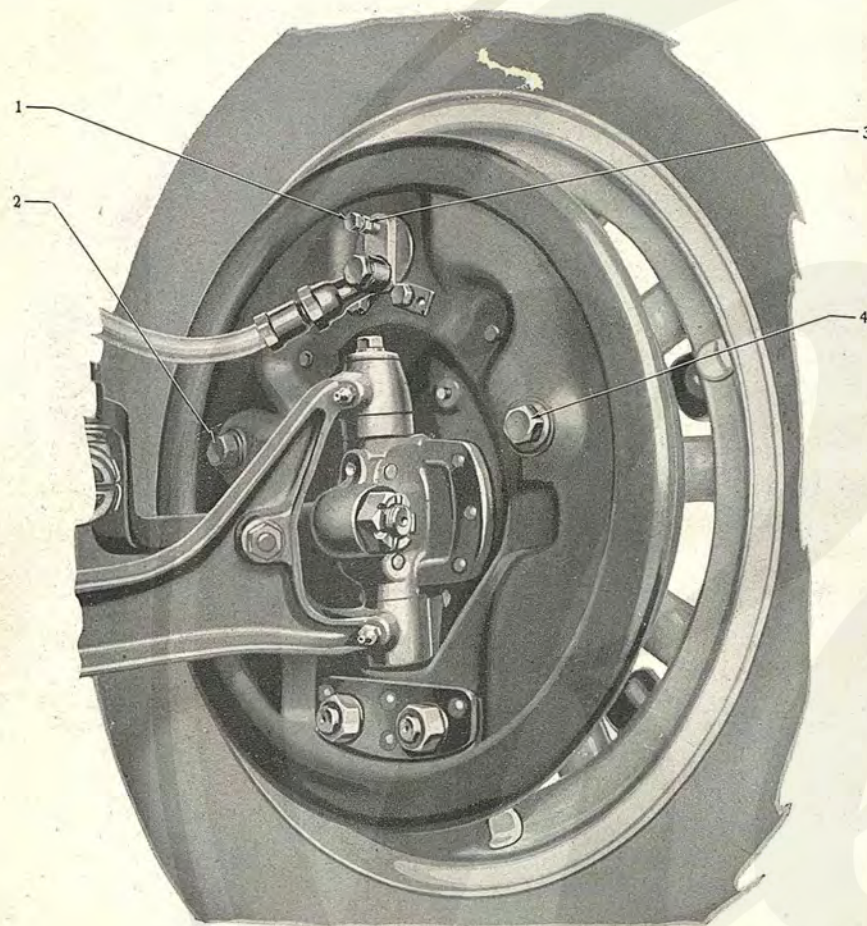

Fig. 7—Brake Shoe Cam Adjustments
A bleeder valve is located at 3, Fig. 7, through which liquid and air are expelled when bleeding the system.
The cap screw (1, Fig. 7) should be removed and the bleeder nipple and hose attached (part of car tool equipment) to the bleeder valve in the wheel cylinder with a small open end wrench. The bleeder valve (3) should be opened from $\frac{1}{2}$ to $\frac{3}{4}$ of a turn, but not completely removed. One end of the bleeder rubber tubing is fitted with a threaded nipple which is to be screwed into the bleeder valve and the other end of the tubing laid into a clean and dry container, preferably a pint bottle. The latter should be resting on the floor.
Adjustment of the brake shoes, to compensate for wear of the facing, is made by turning the brake shoe cams. This is accomplished by turning the nuts (2 and 4, Fig. 7). The car wheel should first be raised sufficiently to spin free from the floor. Then the nut (2) should be turned until it is observed that the brake shoe facing is just touching the drum. This can best be determined by spinning the wheel and at the same time turning the adjusting nut. Then, when the facing touches the drum, the adjusting nut should be turned in the opposite direction so that the facing is just free from the drum. The adjusting nut is held in position by a friction spring and does not require locking. When one brake shoe has been adjusted the other shoe should be adjusted by turning the other adjusting nut (4) and spinning the wheel in the same manner. There are two brake shoes for each wheel and each shoe has a separate adjusting nut.